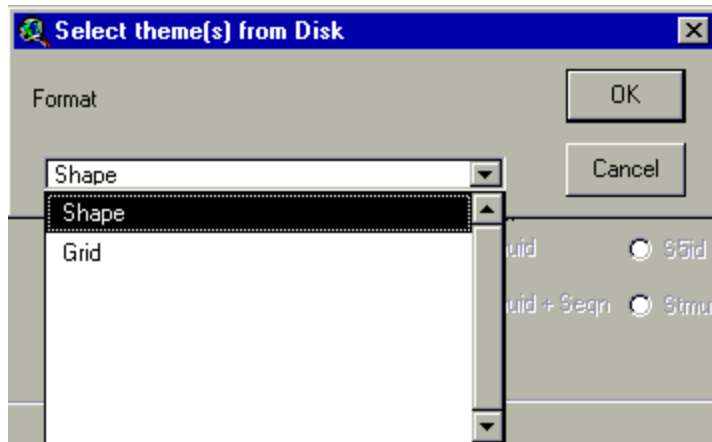

Figure 6.4
3. A new dialog is displayed for the user to define the type of theme being used (Figure 6.4). Select either **Shape** or **Grid** from the drop-down menu and click **OK**.